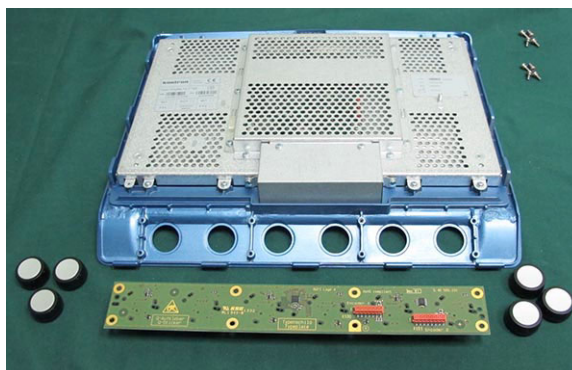

Figure 8-49 Touch Screen and Rotaries Board - Rotary Knobs Removed
- 4.) Remove the six rotary knobs from the Rotaries Board - Figure 8-49.